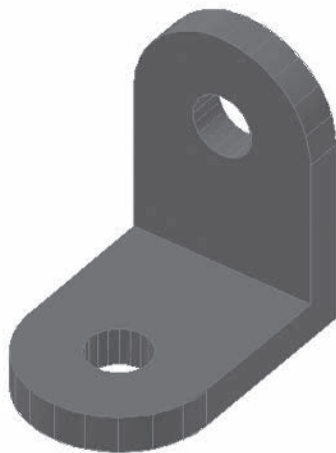

Fig. 44-7
- 1-2. Describe how you would create the solid models shown in Figs. 44-7 and 44-8. Be specific.